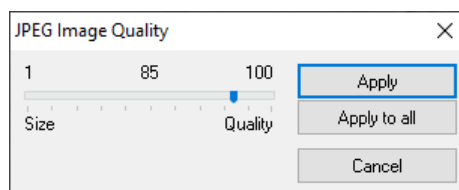

Fig.7.3. Export to JPEG dialog box.
- **Print** – Profile printout in one of the views supported by the software. The following items may be modified in the Print dialog box (Fig. 7.3):